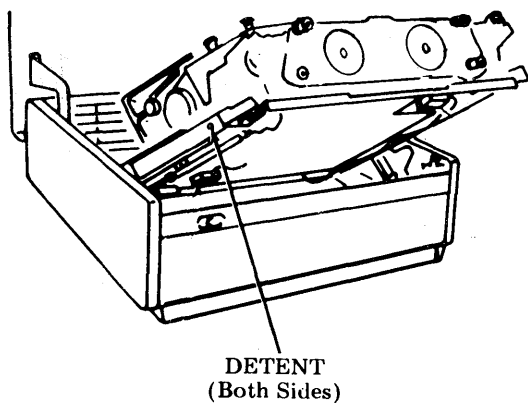

Fig. 17—Printer Tracks
6.02 Slide printer into track. Make sure ac and SSI cables are not pinched. Make sure detents snap into place (Fig. 17).